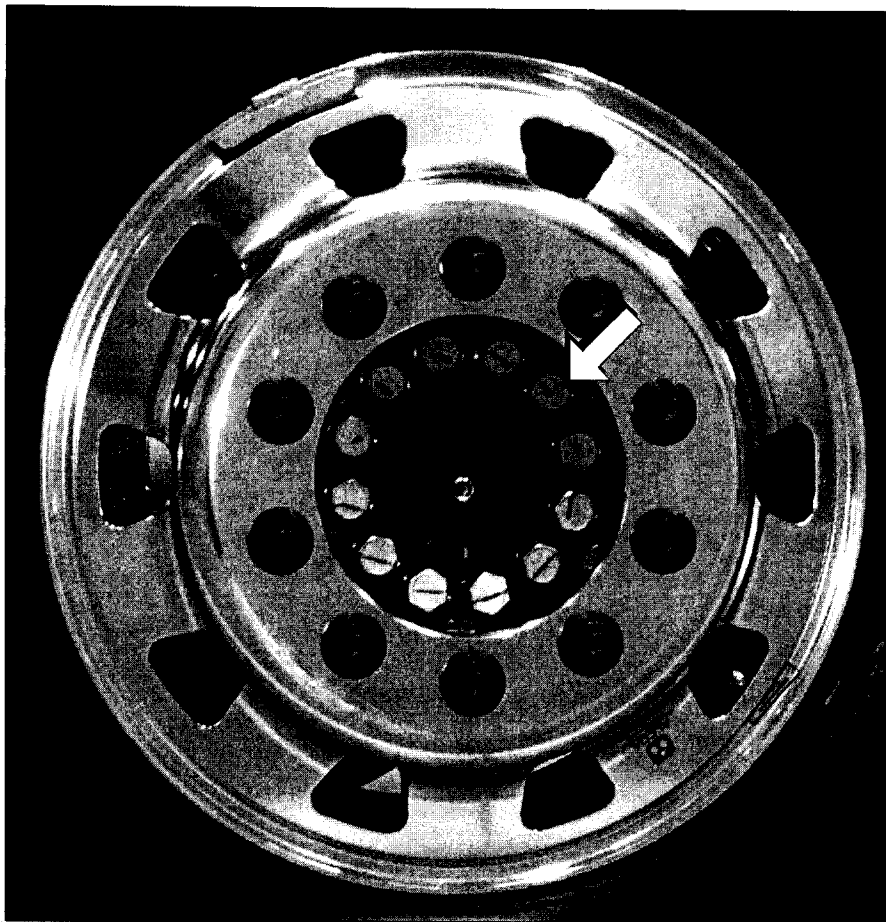

Figure 1.
2. Locate the twelve (12) wheel adapter capscrews on the front axle (refer to Figure 1).